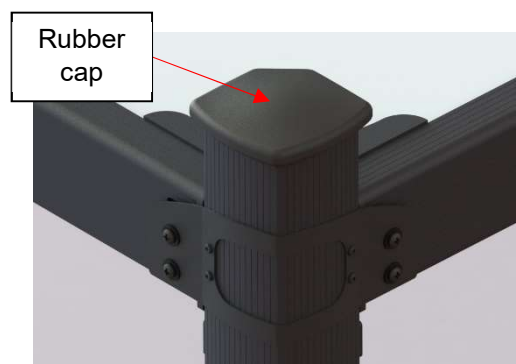

Figure 18
- 2) Remove rubber cap on top of each post. (Figure 18)
12) Reinstall the rubber cap on top of the post (Figure 18)